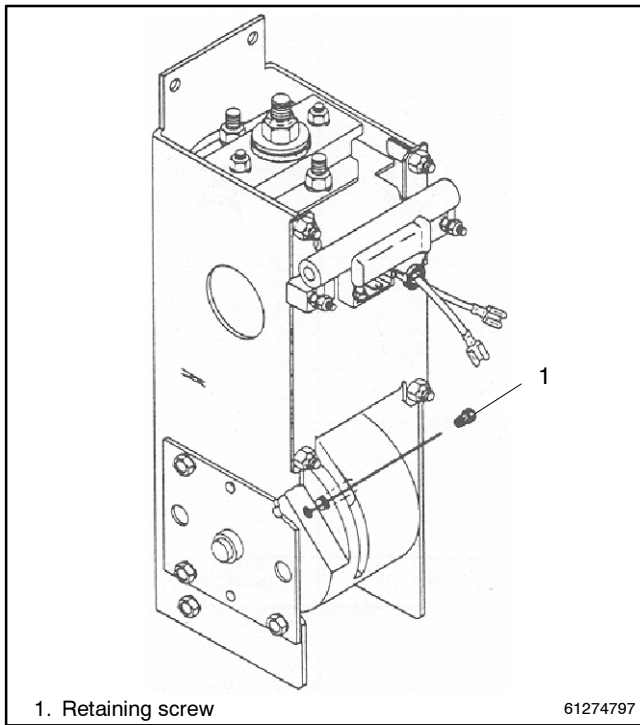
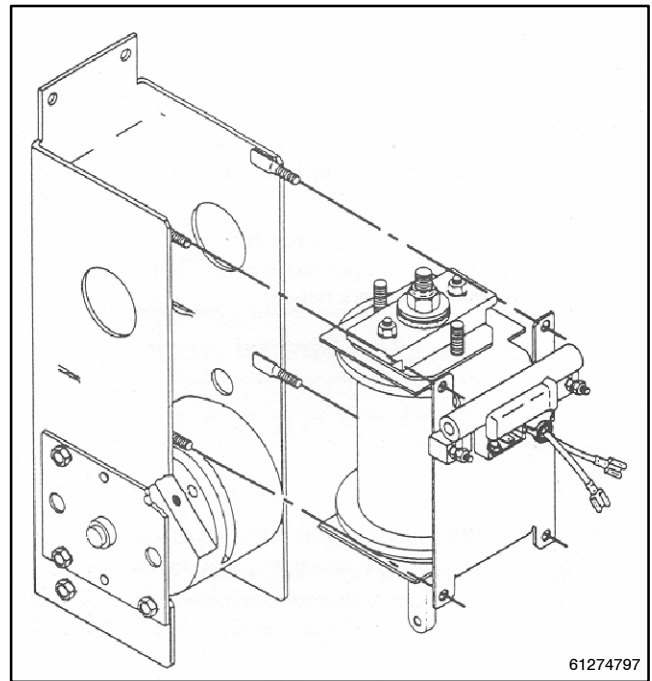
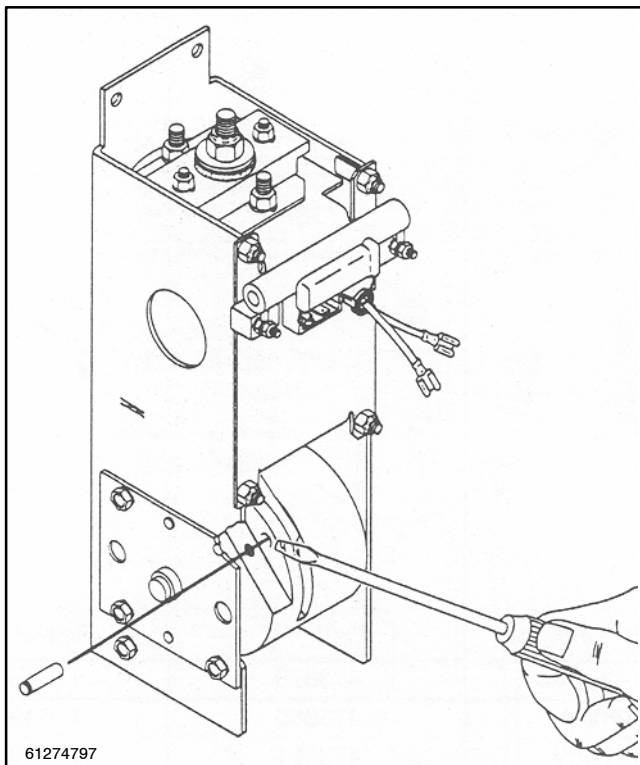

Figure 10-7 Retaining Screw
Figure 10-9 Removal of Coil Assembly from Operator Frame
Figure 10-8 Link Pin
Two solenoid operators are used: One drives the normal source contact shaft, the other drives the emergency contact shaft. The solenoid operators face in opposite directions. These instructions (and Figure 10-7 through Figure 10-13) are for the upper solenoid operator.
The coil assembly is mounted in the operator assembly on the left side of the panel. It must be removed to a work bench for disassembly. See Figure 10-7, Figure 10-8, and Figure 10-9.
2. Disconnect the rectifier and resistor (Figure 10-7). Carefully pull off the two white power wires and the two black coil leads from the square rectifier mounted on the coil assembly. Do not remove the blue varistor. Then remove the two hex nuts to disconnect the two white wires from the resistor (one on each end).
3. Remove the retaining screw (Figure 10-7) and link pin (Figure 10-8). Use a 3/16 in. hex key wrench to remove the hex socket head screw from the weight. Then use a screwdriver to pry out the link pin in the left side of the weight.
4. Remove the coil assembly (Figure 10-9). Use a 7/16 in. nutdriver or wrench to remove four hex nuts from the operator frame. Then remove the coil assembly to a work bench.
The coil assembly can now be reinstalled onto the operator assembly on the left side of the switch panel. See Figure 10-7, Figure 10-8, and Figure 10-9.
1. Install the coil assembly onto the operator frame (Figure 10-9). Place the coil assembly onto the four studs on the operator frame and align the link into the slotted weight. Use a 7/16 in. nutdriver or wrench to tighten the four hex nuts.
2. Install the link pin and retaining screw (Figure 10-8). Insert the link pin (groove side out)
3. Reconnect the resistor/rectifier on the coil frame (Figure 10-7). Replace the resistor (if necessary) and reconnect the two white wires with ring lugs to each end and install and tighten the hex nuts. Replace the rectifier (if necessary) and carefully reconnect the four wires with push-on lugs to the rectifier terminals as follows: connect the two white power wires to the AC terminals (~), and connect the two black coil leads to the DC terminals (red dot and no dot, polarity does not matter). Be sure the blue snubber is still installed between the DC terminals. See Figure 10-13.